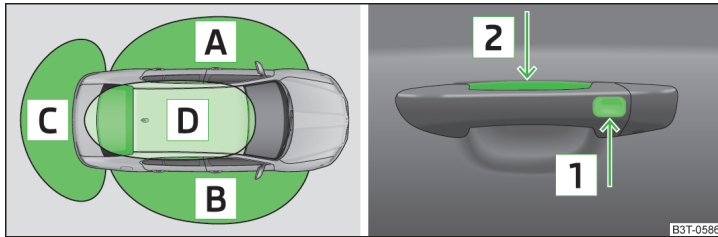

Fig. 32 KESSY: Name of the zones/sensors in the handle of the front door
Unlocking or locking areas » Fig. 32
The KESSY system (Keyless Entry Start Exit System) enables unlocking and locking of the vehicle without actively using the remote control key. The key must be in one of the areas **[A]**, **[B]** or **[C]** » Fig. 32 (about 1.5 meters away from the vehicle).
➤ Grab the door handle of the front door or cover the sensor **[2]** » Fig. 32 with the whole palm of your hand » **i**.
➤ Touch the sensor **[1]** » Fig. 32 with your fingers.
➤ Touch the sensor **[1]** » Fig. 32 twice within 2 seconds with your fingers.
The KESSY system can find the valid key, even if it was left in the front of the vehicle's roof for example **[D]** » Fig. 32. It is therefore not always necessary to know where the key is.
- ✓ The key with which the vehicle has been locked remains in the vehicle in the zone **D** » Fig. 32 on page 50.
If the vehicle is not unlocked within 60 or 90 hours, the sensors in the handle of the driver or front passenger's door are deactivated automatically » Fig. 32 on page 50.
- Unlock the driver's door using the sensor **Z** » Fig. 32 on page 50.